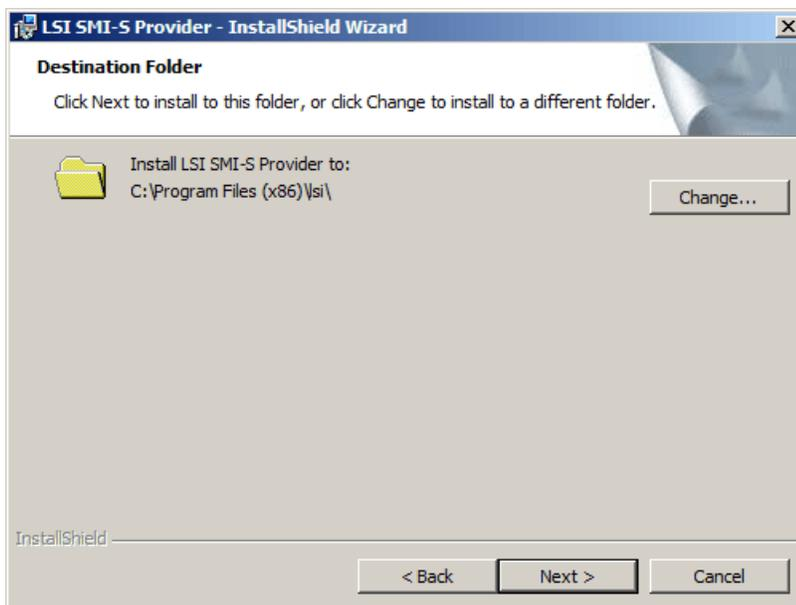

Figure 9-6 Select the Destination Folder
3. If you agree with the terms of the license agreement, click **Yes** to accept the terms and continue the installation. Change the destination folder or keep the default, and click **Next** (Figure 9-6).